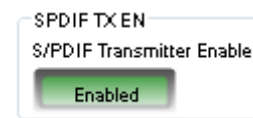

Figure 38. Enabling the SPDIF_TX_EN Register
- To enable the S/PDIF interface, click the **Disabled** button in the **SPDIF TX EN** section. When this button is clicked, the text displayed on the button changes to **Enabled** and the button color changes from red to green (see Figure 38).